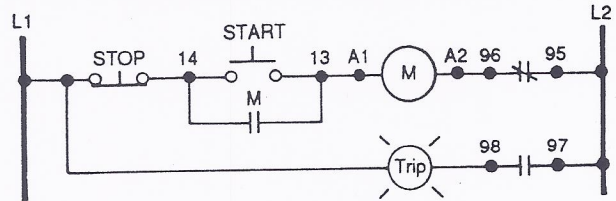

Figure 4
4. Wire the starter as required for the installation. Figure 4 shows a typical application. The fuse rating for the control circuit (terminals 95-98) is printed on the side of the overload relay. The maximum fuse rating (non time delay) for the main circuit is also noted on the side of the overload relay. When using time delay fuses, do not exceed 150% of the setting selected.